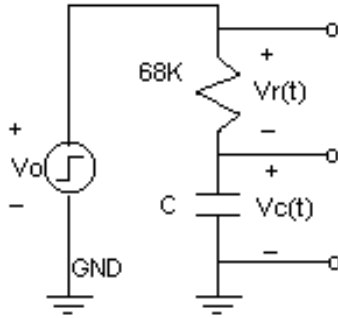

Figure E2-6 Series RC circuit to observe the time constant.
2. Build the circuit in Figure E2-6 on your breadboard, with $C = 0.001\mu\text{F} = 1\text{nF} = 1000\text{pF}$. (What is the color code for this capacitor? $\underline{\hspace{1cm}} \underline{\hspace{1cm}} \times \underline{\hspace{1cm}}$ (Note: Not all capacitors are made with color codes. There are three in the kit, which may be marked CM102, CM103, CM104, plus an electrolytic. Check with the instructor to identify the proper capacitor.) Mount a coaxial TEE connector to the output V_o of the Function Generator. Connect the circuit to one branch of the TEE using coaxial cable with clip leads. Be sure the clip lead from the shield of the coax is connected to GND on the circuit. The other clip lead connects to the resistor. Connect the 50 Ω terminator to the other side of the TEE. (This ensures that the FG calibrations are correct.) Connect CH1 of the scope to the resistor, and CH2 of the scope to the capacitor $V_c(t)$ using clip leads. Note that the outer shields of both scope probes are connected to GND on the circuit.